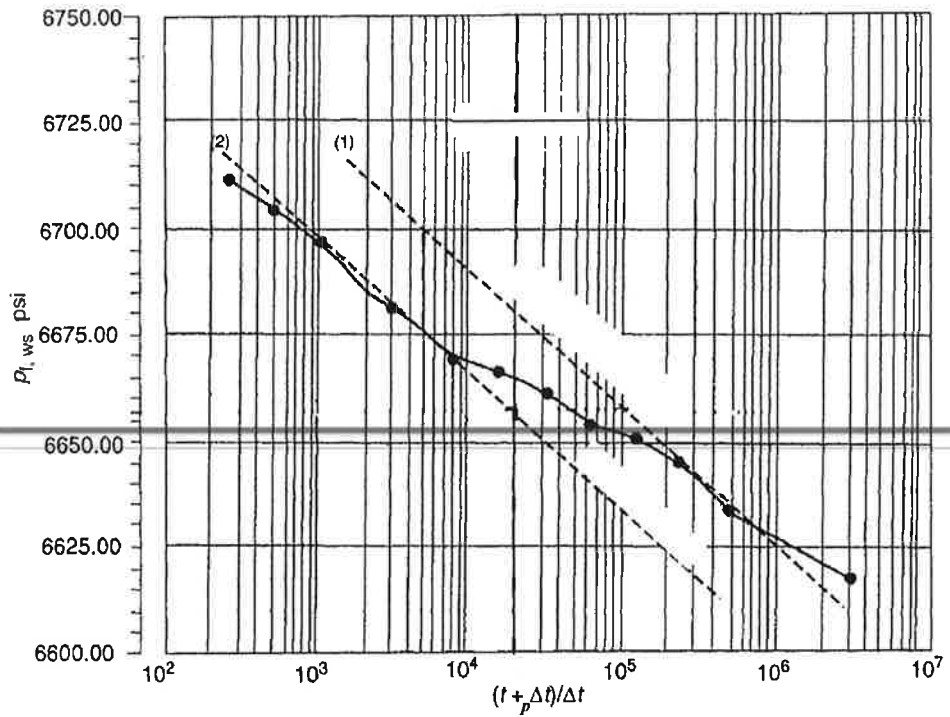

FIGURE Q4: Semi-log plot.
4. a. The build-up pressure transient data of an oil reservoir are given in **TABLE Q4a**. The reservoir and fluid data are given in **TABLE Q4b**. The corresponding semi- log plot is shown in **FIGURE Q4**.